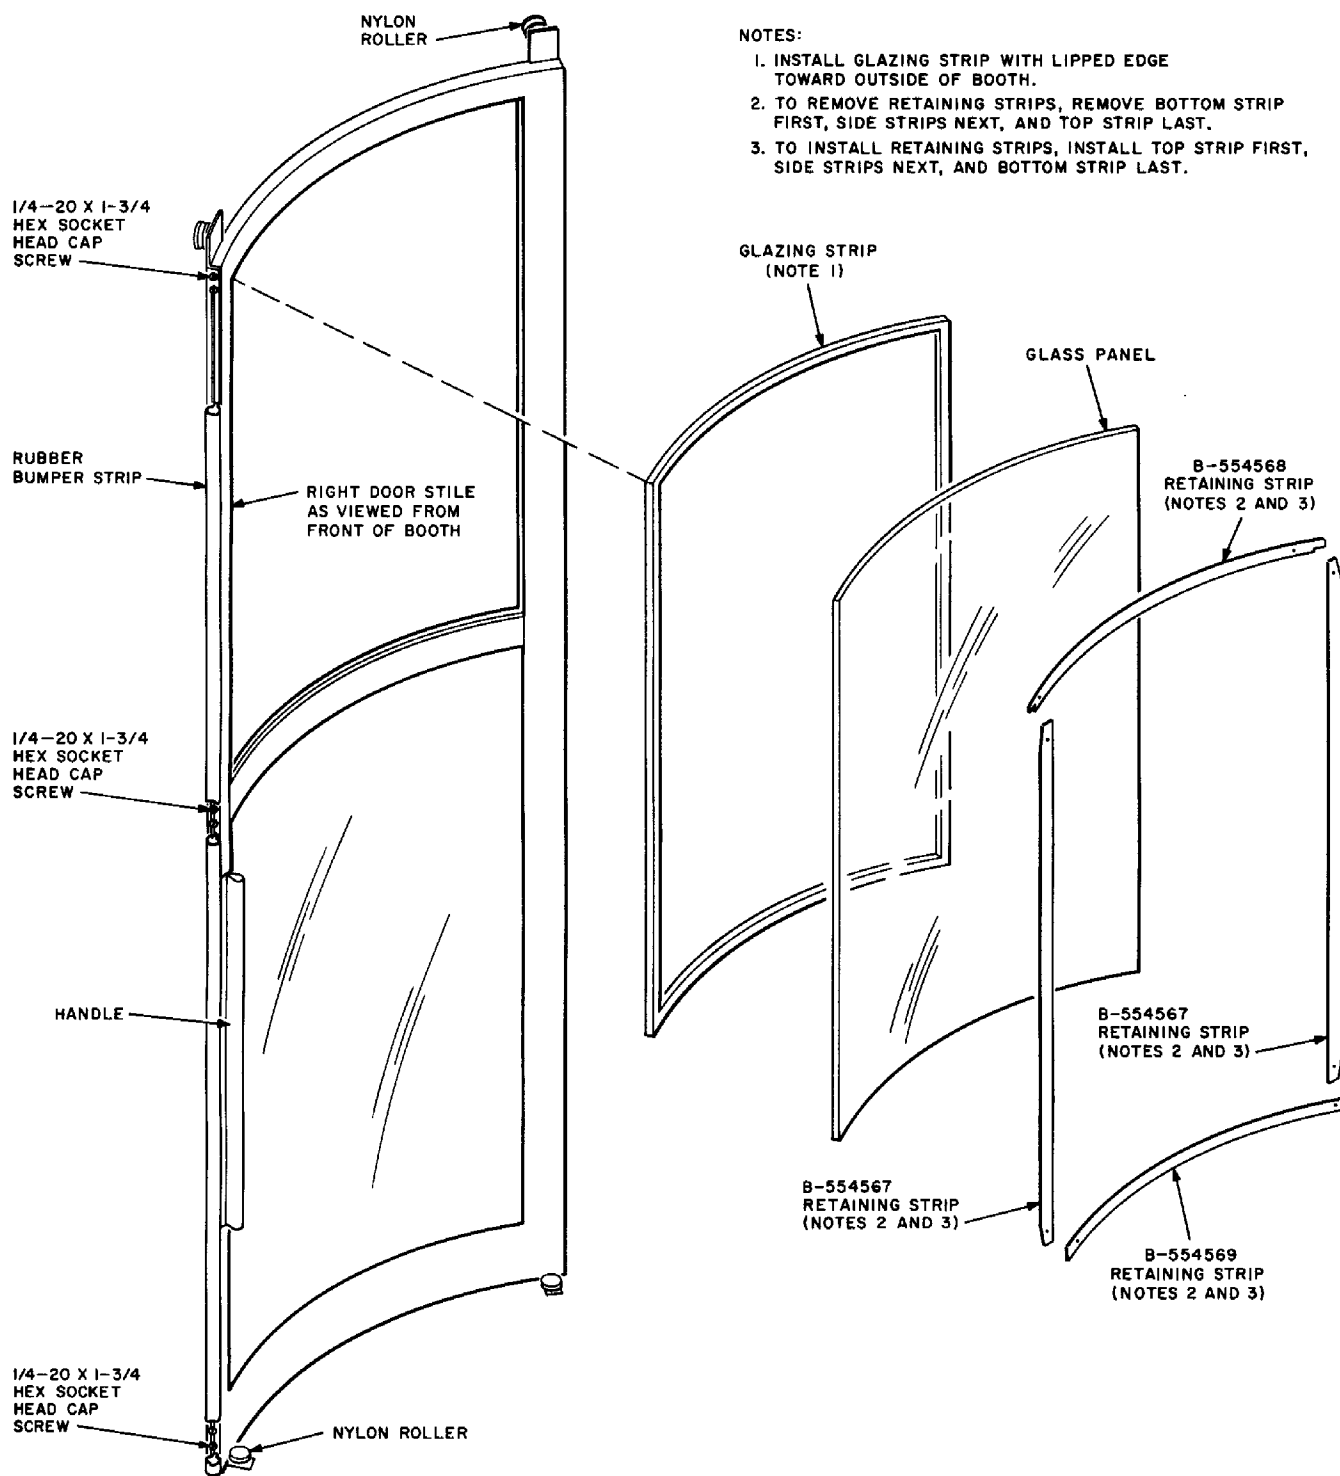

Fig. 4 — B-554510 Door Assembly
9.01 Ensure that the door assembly (Fig. 4) rolls smoothly in its tracks.
- (c) Refer to Fig. 4 and remove the retaining strips in the order shown.
- (h) Install the retaining strips in accordance with Fig. 4.
- (i) Secure the right door stile by tightening the six hex socket-head cap screws (Fig. 4).